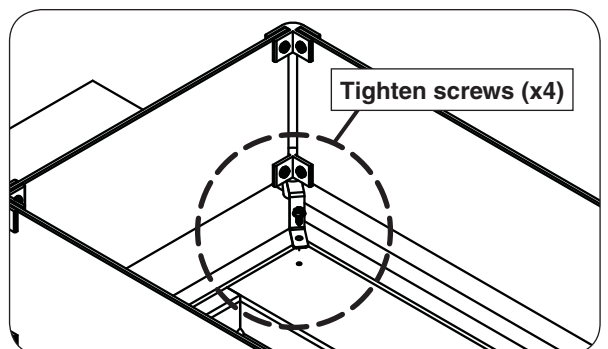

Fig. 21-5 Install screws
7. Use a $5/16$ " nut driver and the supplied four screws to fasten the guard in place (see Fig. 21-5).